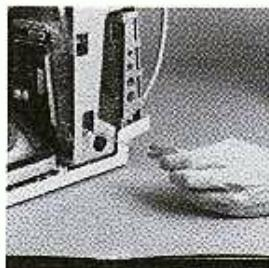

Figure 3-16
- c. Install the host connector card screw through the plastic shield and the host connector card and tighten it against the chassis. See Figure 3-16.